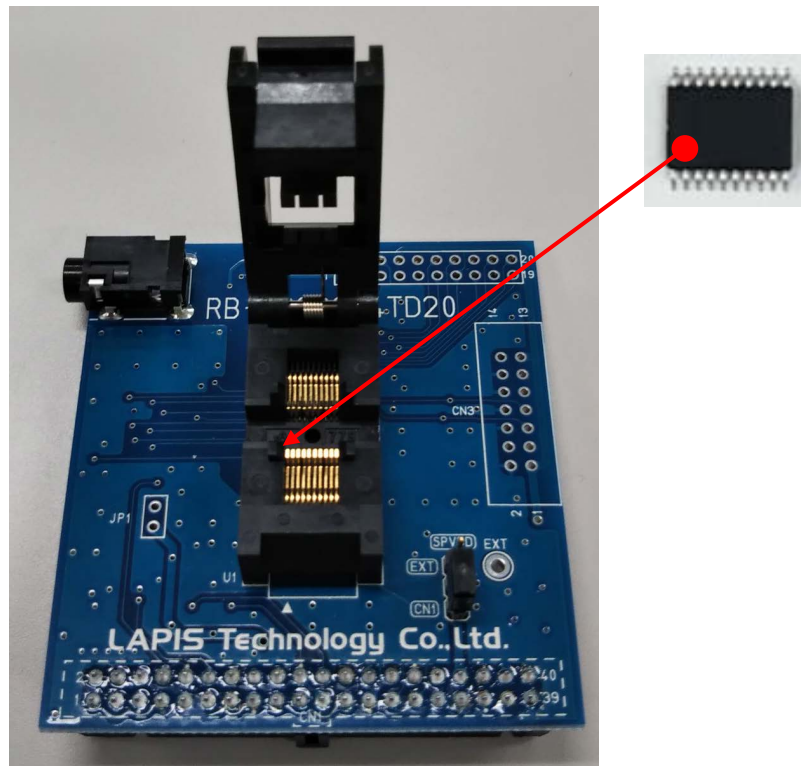

Figure 1 Outline Diagram
- Turn off the power when loading Speech Synthesis LSIs into the RB-S22Q244TD20. Pin 1 is the position of the board silk ▲ at the bottom left with respect to the socket opening. The Figure 1 shows the setting directions of Speech Synthesis LSIs.